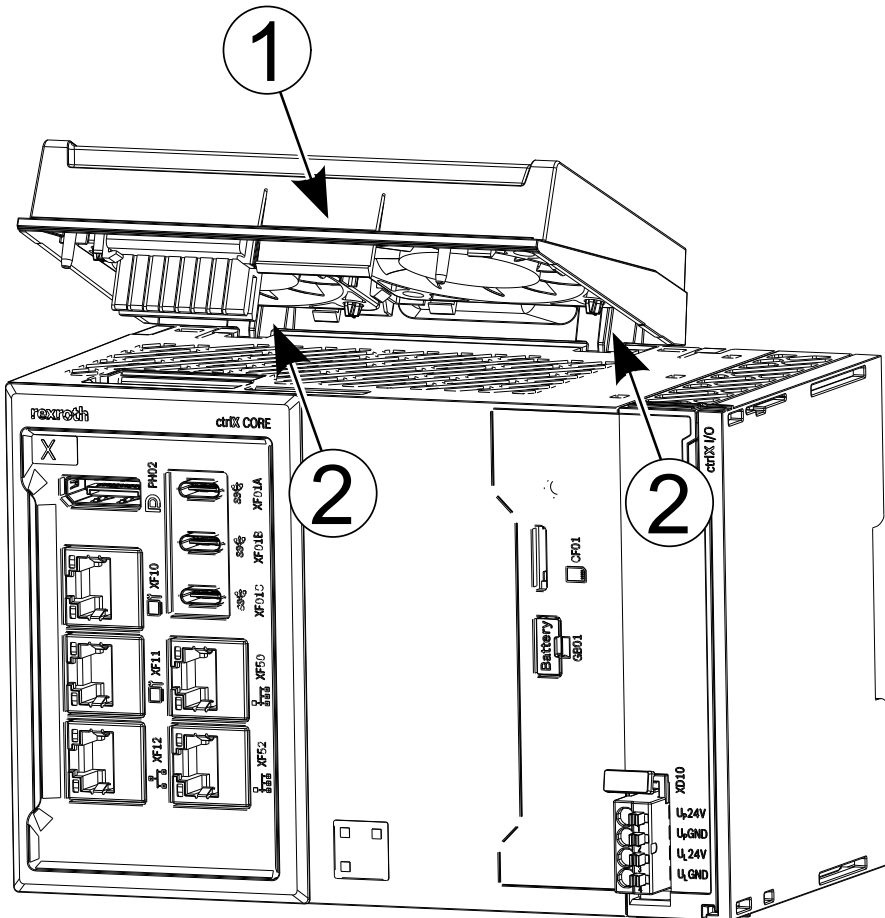

Fig. 12: Fan mounting
1. ➤ Release the locking hook of the fan at the front, see ① in Fig. 12.